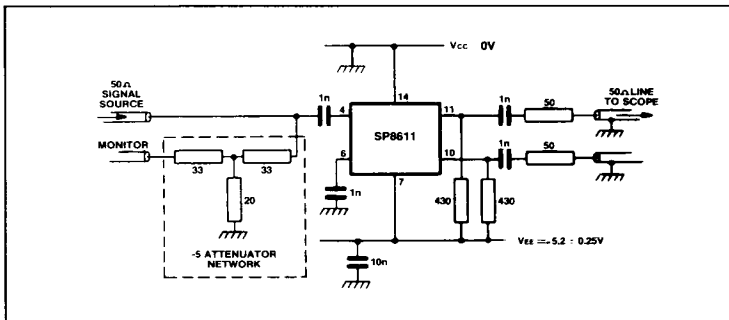

Fig.5 Toggle frequency test circuit
- The test configuration for dynamic testing is shown in Fig.5.